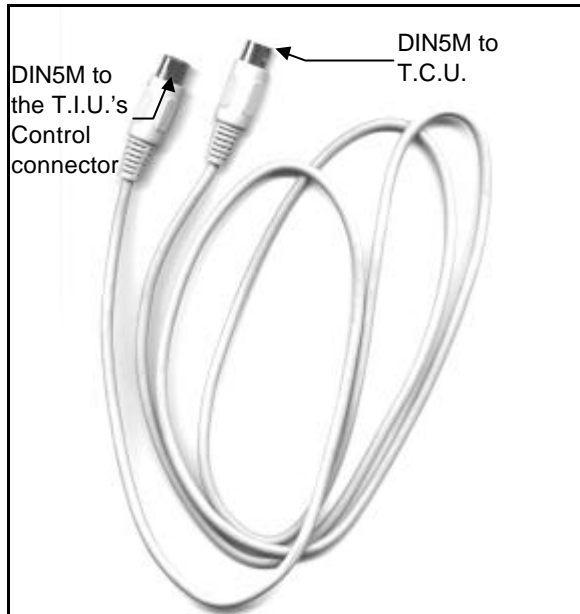

Figure 4-5: The Classnet Control Cable (P/N 5CB10033)
- Connect the T.C.U. by connecting the Control Cable (P/N 5CB10033) between the T.C.U. and the T.I.U., as Figure 4-5 illustrates.